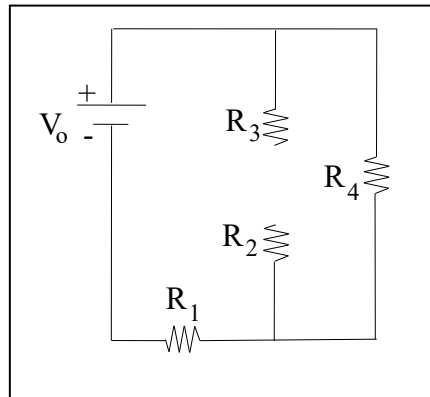

Figure 2
1. Using the proto-board, the 4 resistors, the variable power supply, and the wire leads and alligator clips; construct the circuit shown in Figure 2.